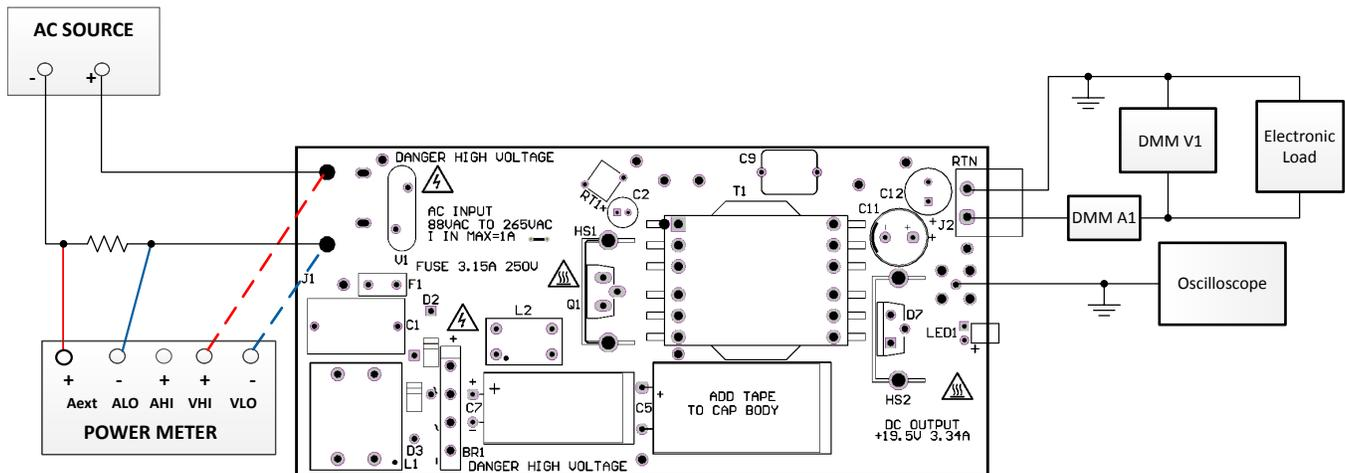

Figure 3. Test Setup
Figure 3 shows the equipment test setup when testing with load. Here the voltage sense has been moved to the other side of the shunt resistance. This is because the error in the input current reading caused by the input impedance of the voltmeter reduces as the input current increases.
However as the input current increases, the voltage drop across the current shunt causes an error in the voltage measurement with the setup shown in Figure 3. Moving the VLO connection to the opposite side of the shunt as shown removes this error.
AC Voltage Source: The input source shall be an isolated variable AC source capable of supplying between 90 VAC and 265 VAC at no less than 200 W and connected as shown in Figure 2 and Figure 3. For accurate efficiency calculations, a power meter should be inserted between the AC source and the EVM as shown in Figure 2 and Figure 3.
Multimeters: For highest accuracy, VOUT can be monitored by connecting a DC voltmeter, DMM V1, directly across the +VOUT and –VOUT terminals as shown in Figure 3. A DC current meter, DMM A1, should be placed in series with the electronic load for accurate output current measurements.
1. Set up the EVM as shown in Figure 3.
1. Use the test setup shown in Figure 3.
1. For load regulation, use the test set up shown in Figure 3.
2. For line regulation, use the test setup shown in Figure 3